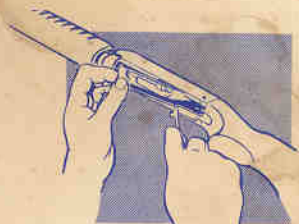
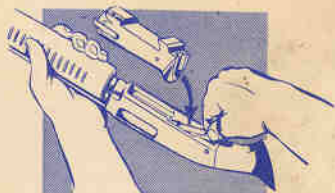

Figure 10
Figure 11
**CARRIER AND BREECH BOLT:**—Push fore-end to rear and slide breech bolt forward inside receiver. Using cartridge stop as tool disengage the right side of the carrier from hole in receiver. Then disengage left side, and lift carrier out of receiver as in Figure 10. With fore-end forward, slide breech bolt fully to the rear, and holding it at the rear, lift up and out of receiver as in Figure 11.